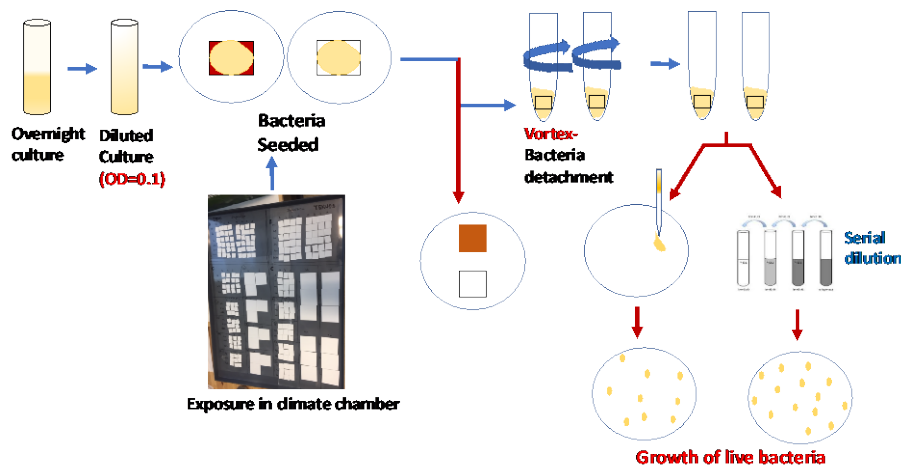

Figure 1. Overview of the protocol
5. Measure the Optical Density (OD) at a wavelength of 600 nm and dilute the bacteria cell culture to get an OD =0.1
14. A schematic of the protocol is given in figure 1